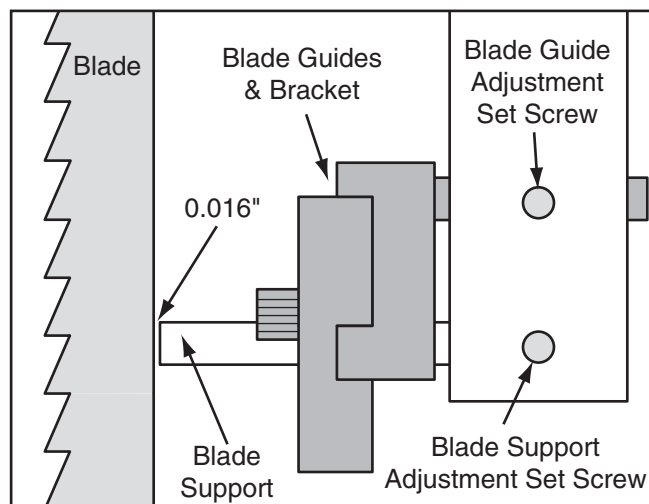

Figure 23. Blade guides and bracket positioned away from blade.
2. Loosen the blade guide adjustment set screw on the guide post (see **Figure 23**).
3. Move the blade guide bracket (with the guides) away from the blade so that only the blade support is near the blade, as illustrated in **Figure 23**.
3. Make sure the blade guide adjustment set screw is loose (see **Figure 23**).